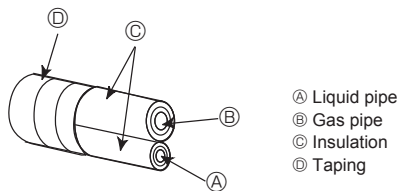
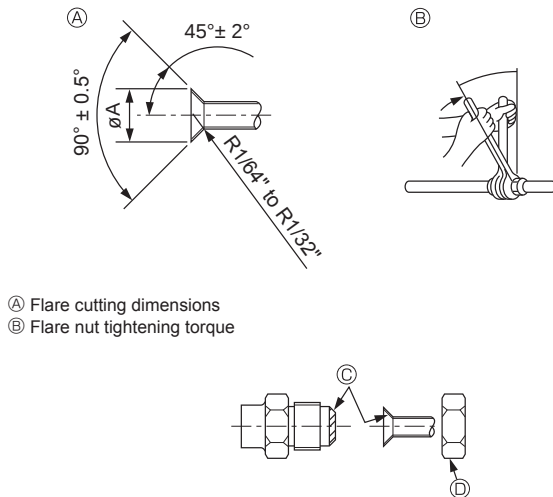

Fig. 4-2
Fig. 4-3
A (Fig. 4-3)
4.3. Connecting pipes (Fig. 4-2) (Fig. 4-3)
[Fig. 4-3]